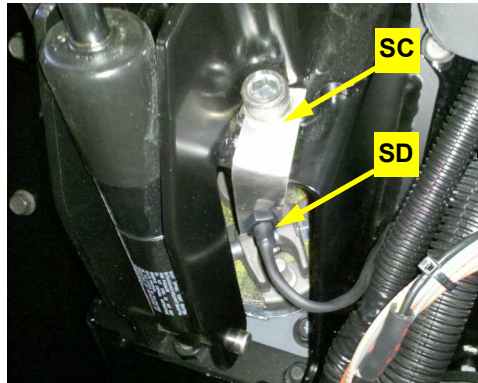

Figure 2b: Installed switch
- b. Install switch SD in bracket SC (Figure 2b)